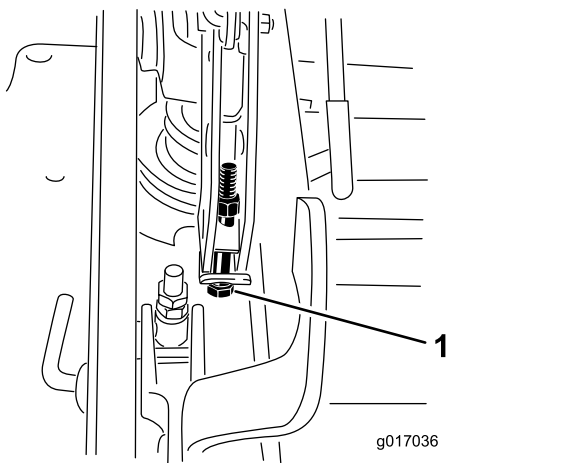

Figure 99
12. If the deck is too low, tighten the single-point-adjustment bolt by rotating it clockwise. If the deck is too high, loosen the single-point-adjustment bolt by rotating it counterclockwise (Figure 99).